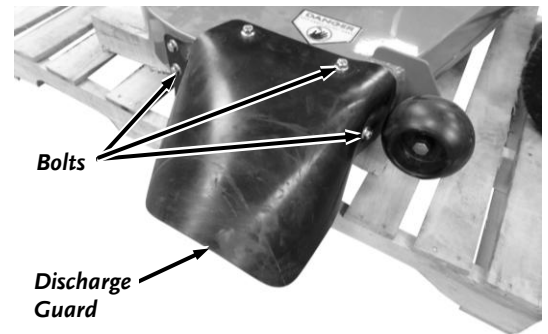

Figure 17
1. Install the Discharge Guard with five 3/8-16 X .75" Bolts using a 9/16" Wrench (**Figure 17**).